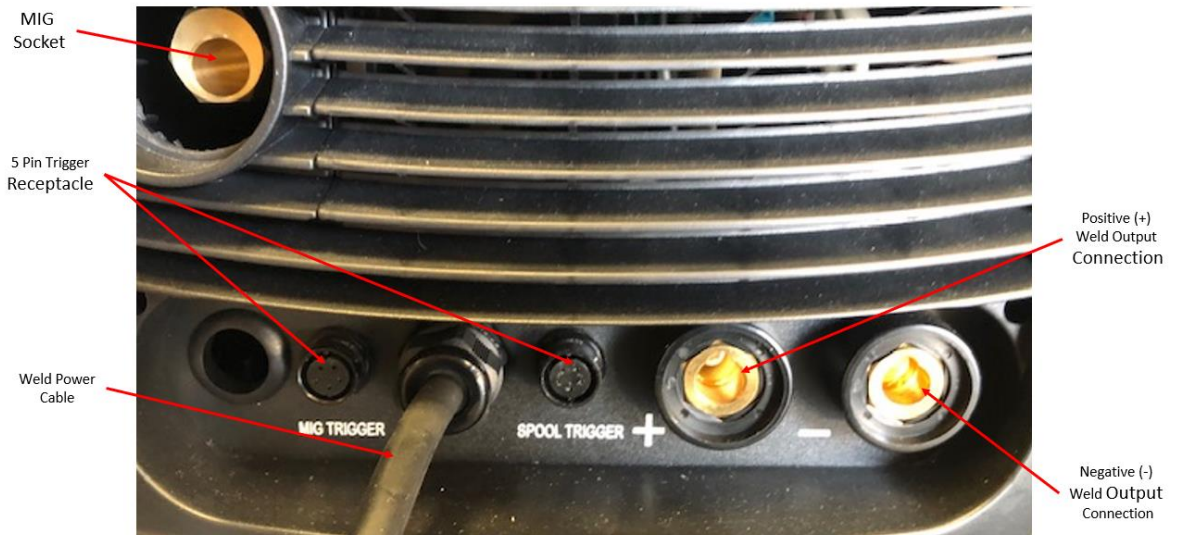

Figure 8
3. Insert the back end of the MIG torch into the MIG socket on the front of your machine (Figure 8). Make certain to completely slide the torch all the way in. Slightly twist to assist with pushing the torch to the back of the receptacle. The retaining bolt can then be tightened, making certain the bolt sets down into the retaining groove on the back of the MIG torch.
4. Connect the 5-Pin trigger connection on the MIG torch to the 5-Pin trigger receptacle for the MIG torch on the front panel (Figure 8).
1. Remove the ground cable and the electrode holder from the weld output connections. Install the ground cable to the Positive (+) weld output connection (Figure 8).